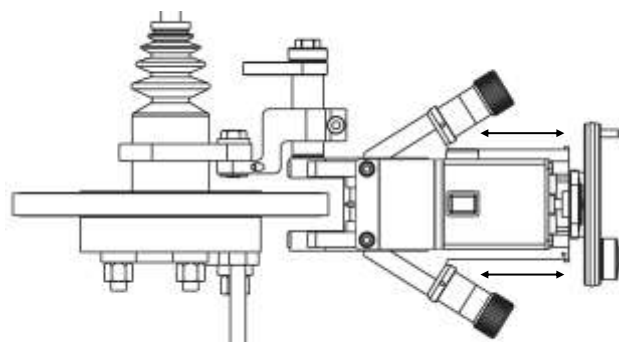

Fig. 60
6. Move the slides carefully to the hub of the brake rotor, Fig. 60.